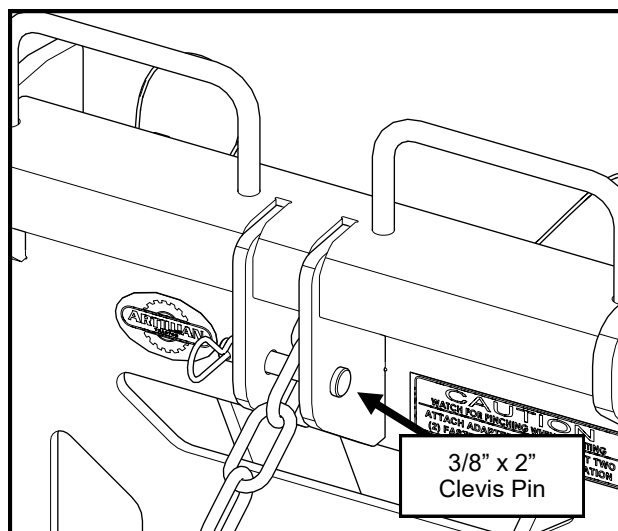

Fig. 9.2—Plow Chain to Upper Tabs
9.2 Connect the plow chain between the upper tabs of the mounting frame with a 3/8" x 2" clevis pin, with the pin through the third chain link, and secure with the smaller hairpin cotter pin. See Fig. 9.2.